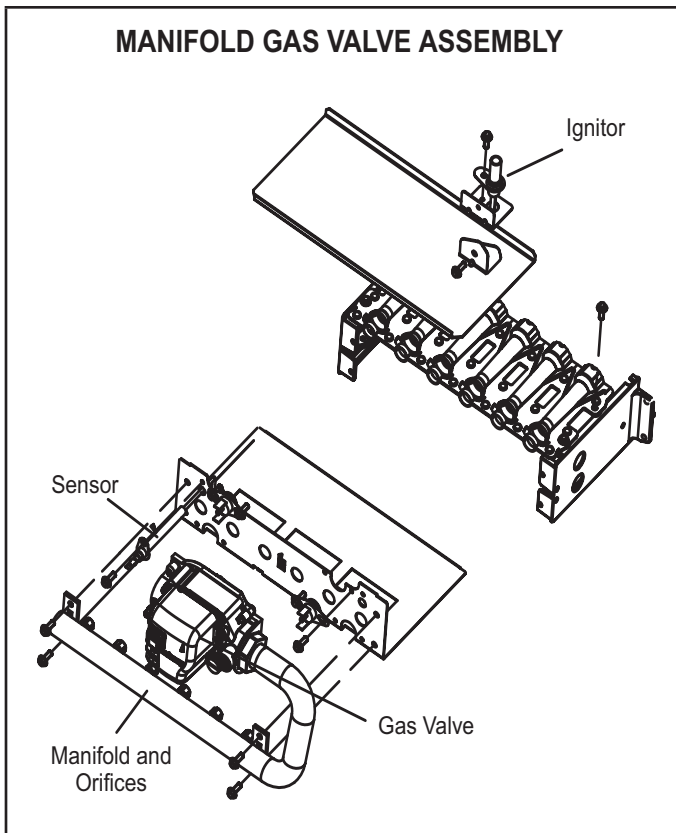

FIGURE 1
- 4 - Remove the four manifold securing screws. Slide the manifold/gas valve assembly out of the burner box. See figure 1.